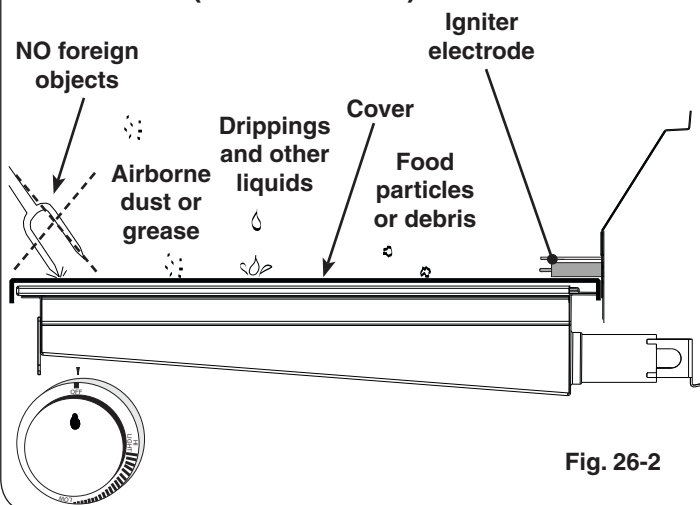

Fig. 26-2
- When not in use, **always** cover the infrared burner with the stainless-steel cover. This protects the burner from drippings (from other cooking), water, airborne particles, and foreign objects (Fig. 26-2).
- Do not strike or scrape the ceramic portion of the burner as it may chip, crack, or break (Fig. 26-2).